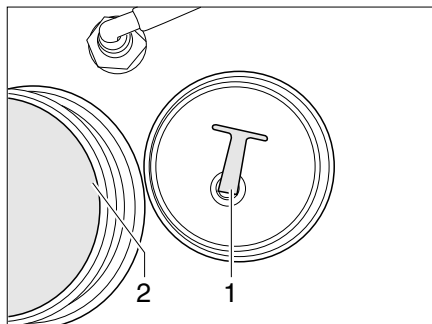

Fig. 350 Stopper
- Screw the stopper (Fig. 350,1) out of the drainage opening (Fig. 350,2). The water drains off.